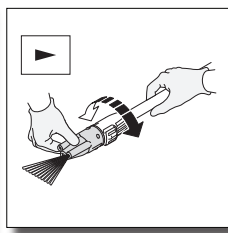
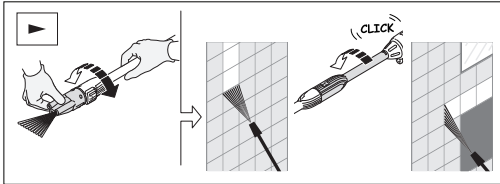

Fig. 19
Fig. 20
- Fan Setting: (Fig. 19) Use the fan spray when cleaning windows, patio furniture, siding etc. Place the nozzle approximately four to five feet away from the surface with the nozzle at a forty five degree angle. Squeeze the trigger and vary the fan spray pattern and angle until optimum cleaning efficiency is achieved. (Fig. 20) Turn lance (up to 360°) until it clicks for the desired angle.